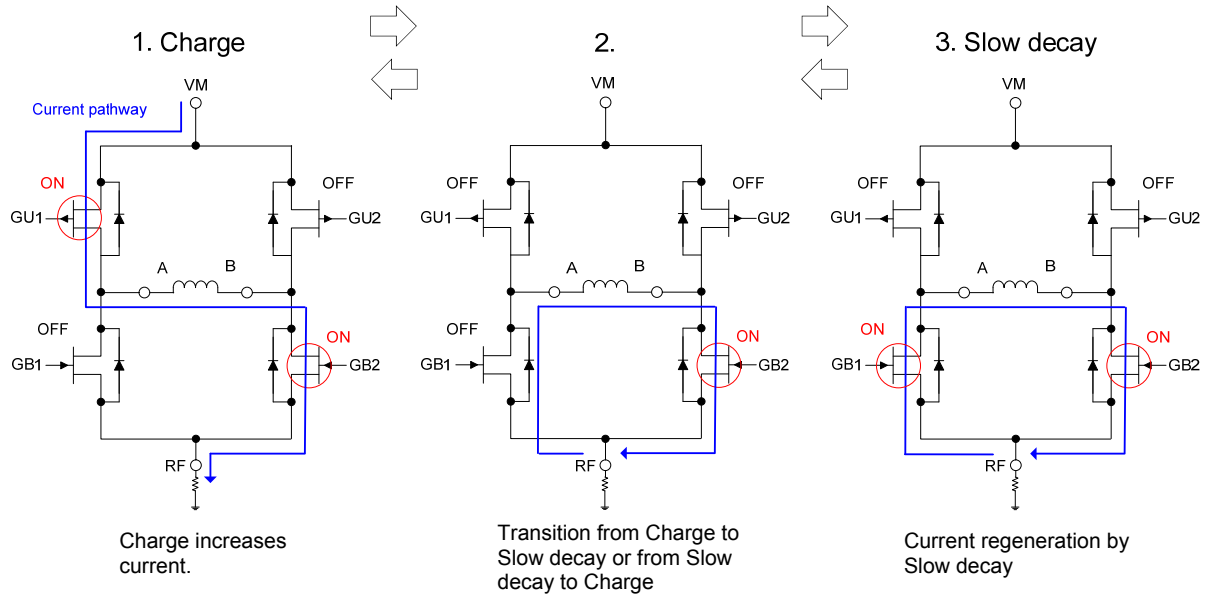
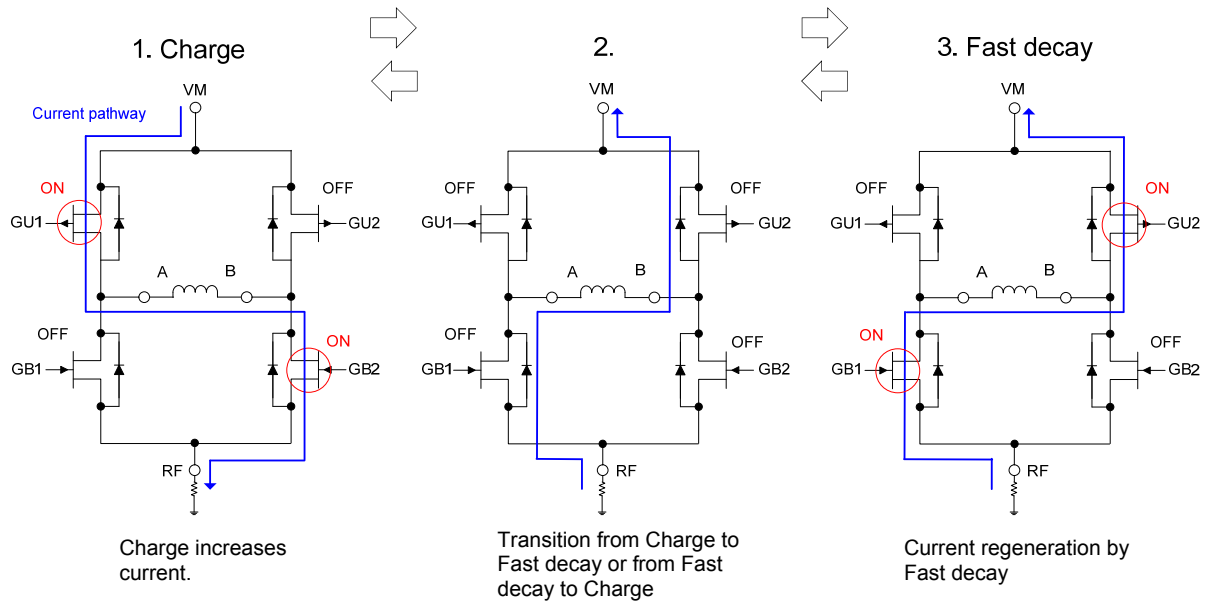

Figure 31. Slow Decay Sequence
Figure 32. Fast Decay Sequence
For Slow decay and Fast decay mode, the coil current flows through the body diode as shown in (2) event in Figure 31 and Figure 32 same as Mixed decay.